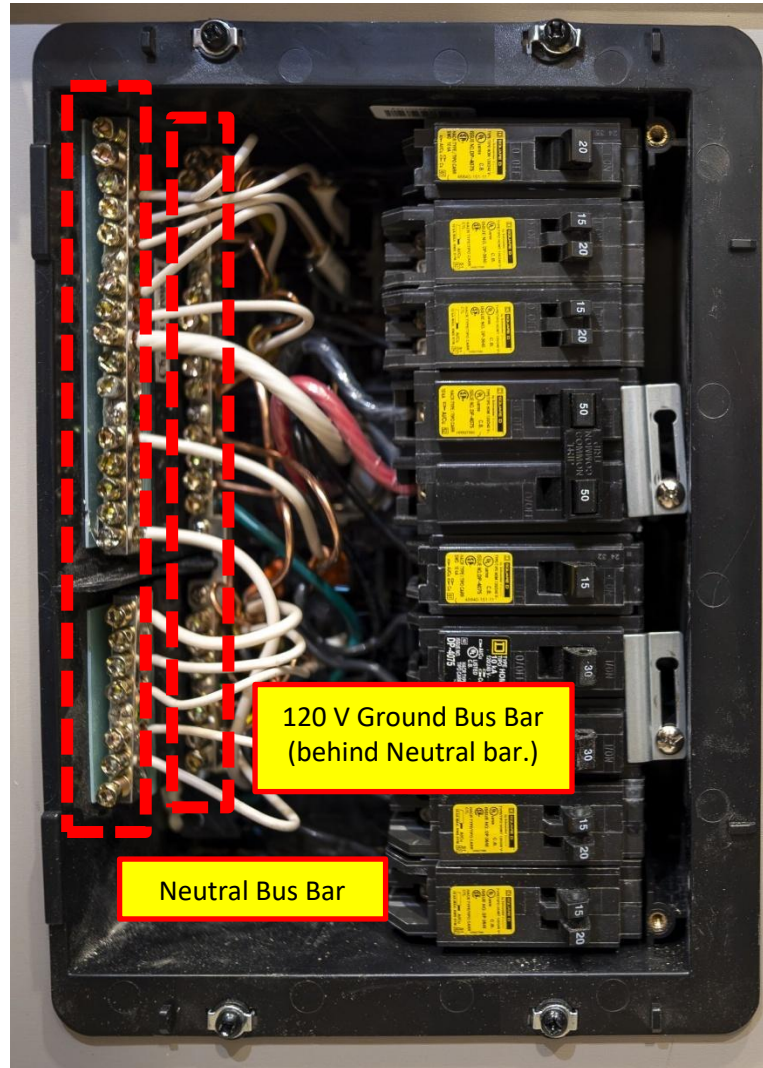

Figure 75. WFCO Power Control Center with the safety cover removed.
4. Remove the AC power distribution center cover panel, exposing all ground and neutral bars for the AC connections. See Figure 75.